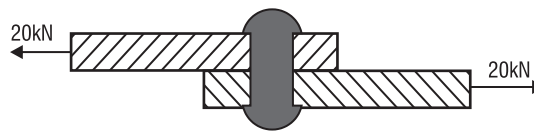

Figure 6.8
11. Two flat steel strips 35 mm wide and 6 mm thick are joined by a single rivet with a 12mm diameter, as shown in **Figure 6.8**. A load of 20 kN is applied as shown.